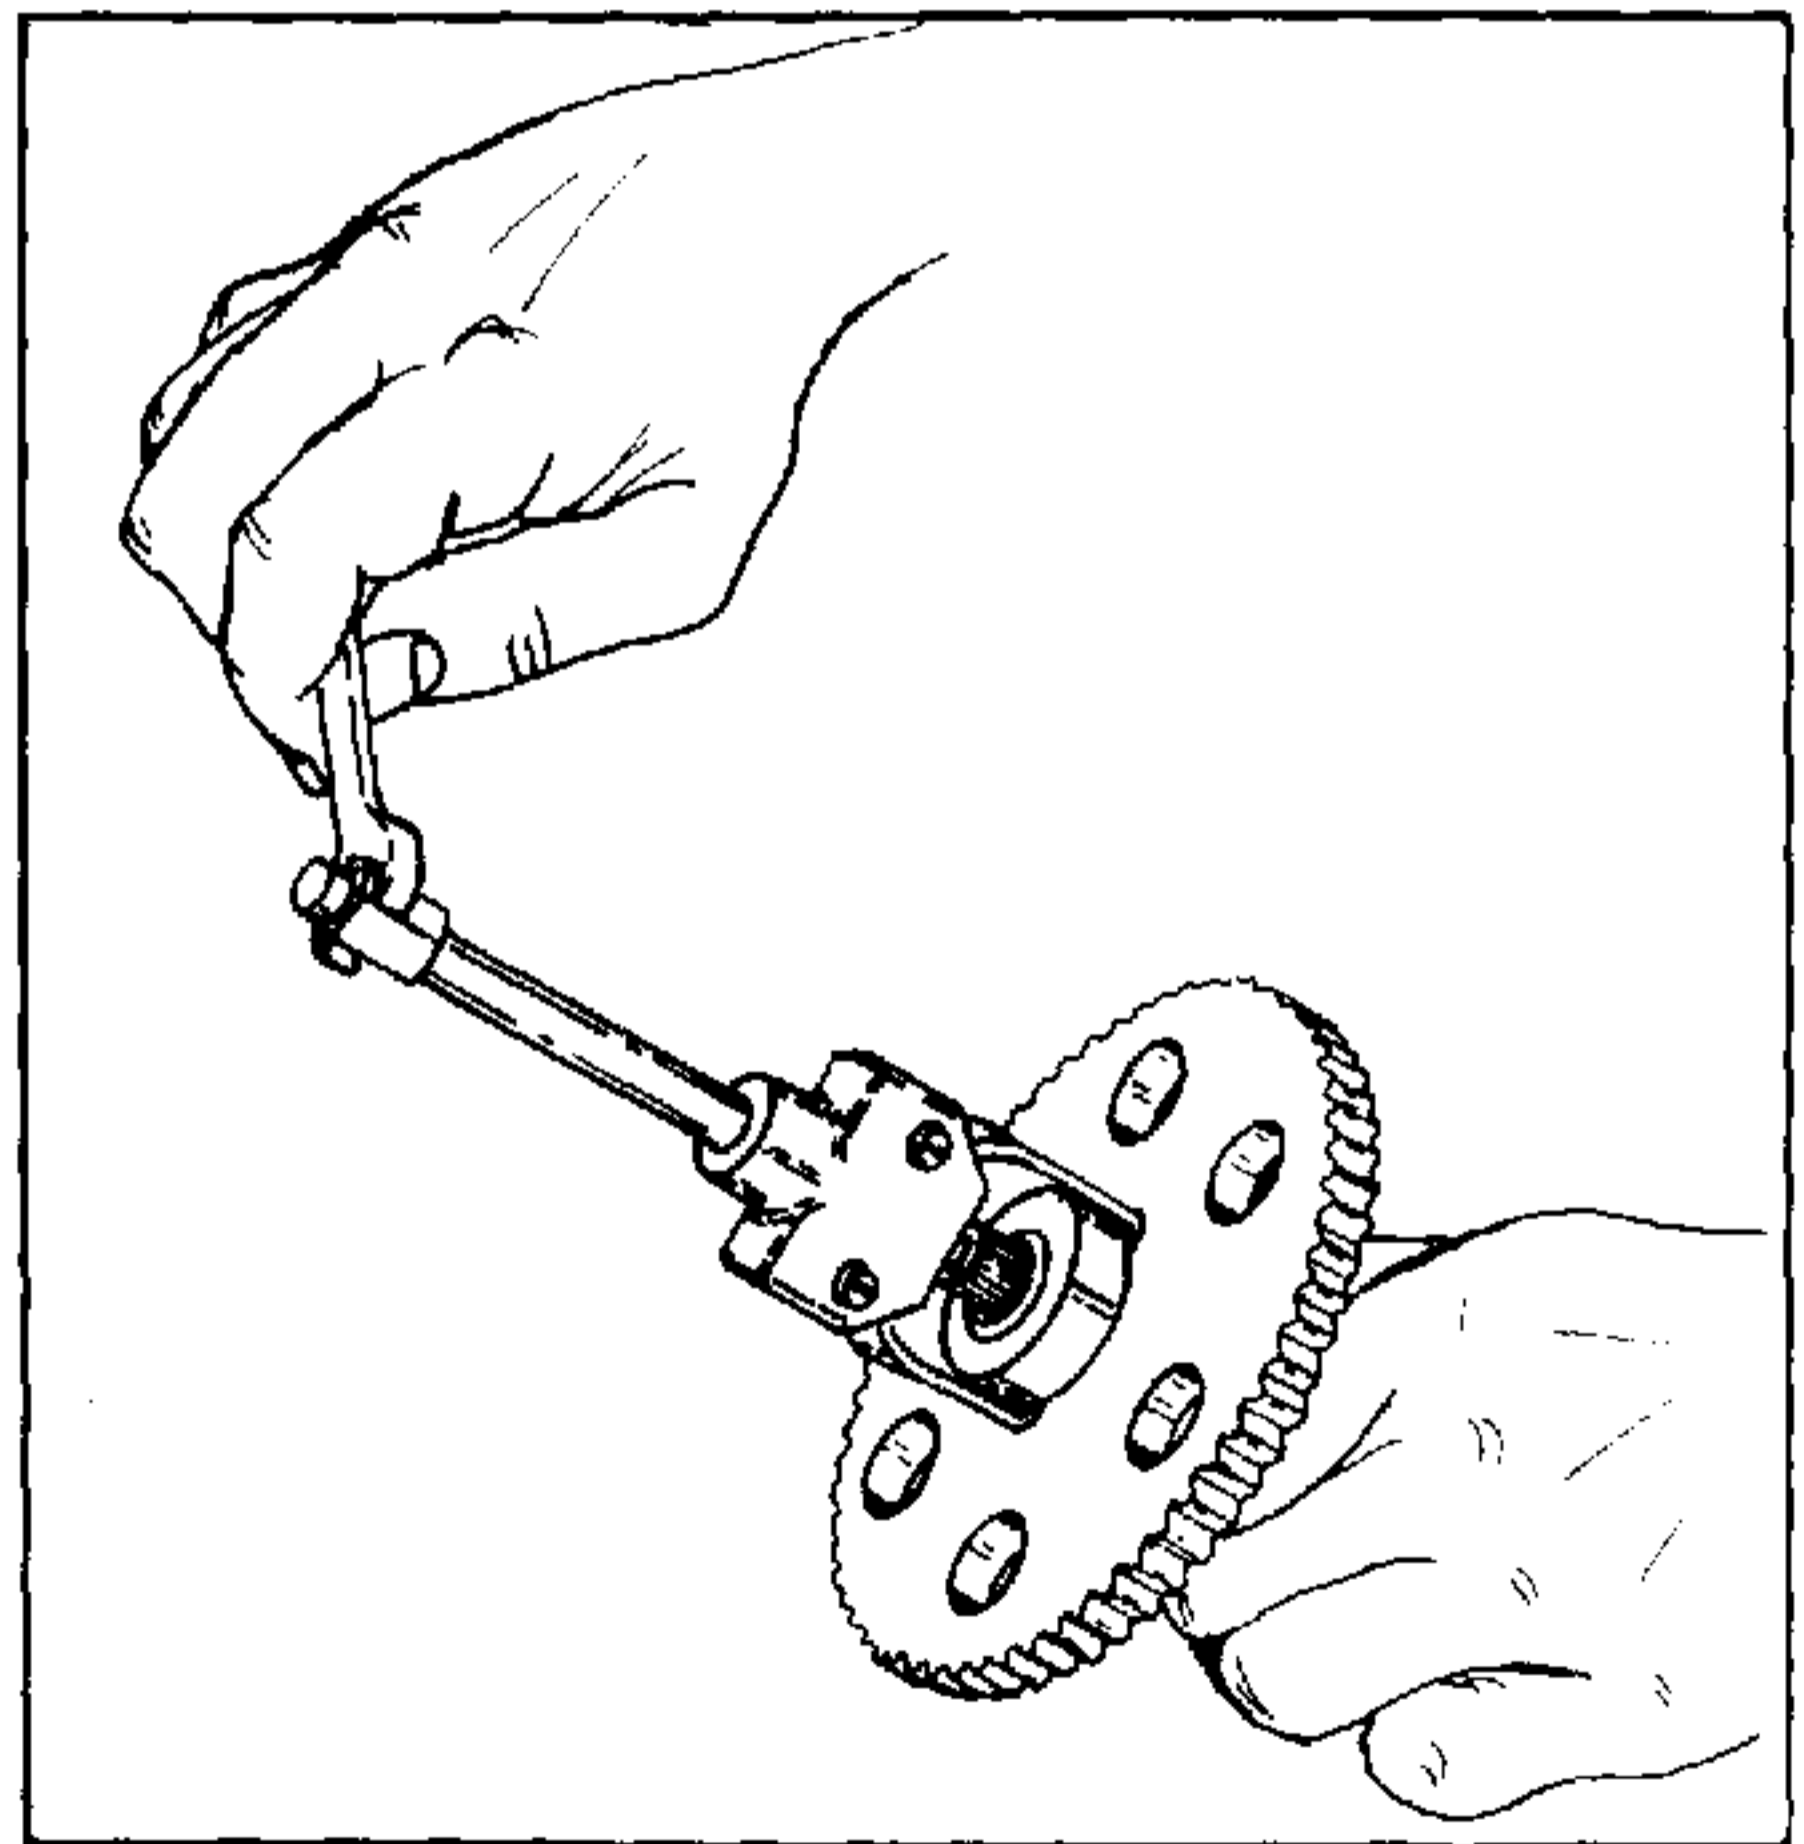

FIGURE 10.
5.20 Use puller on drive shaft assembly to remove ball bearing from shaft. Figure 10.